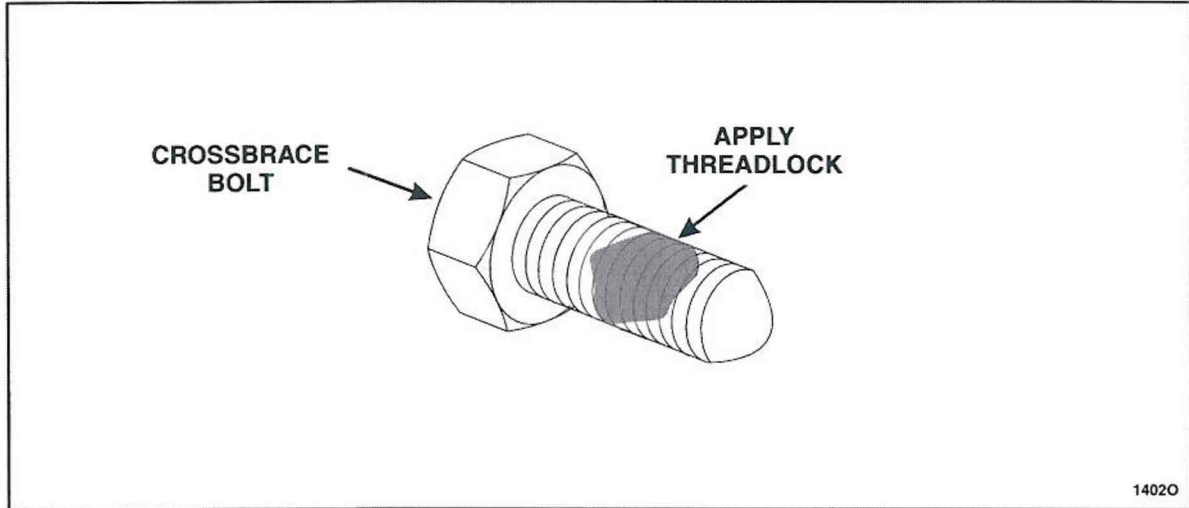

FIGURE 10
3. Check the crossbrace bolts for a thread lock patch. If the patch is not present, apply Threadlock and Sealer - Motorcraft® Part Number TA-25-B before proceeding to Step 4. See Figure 10.